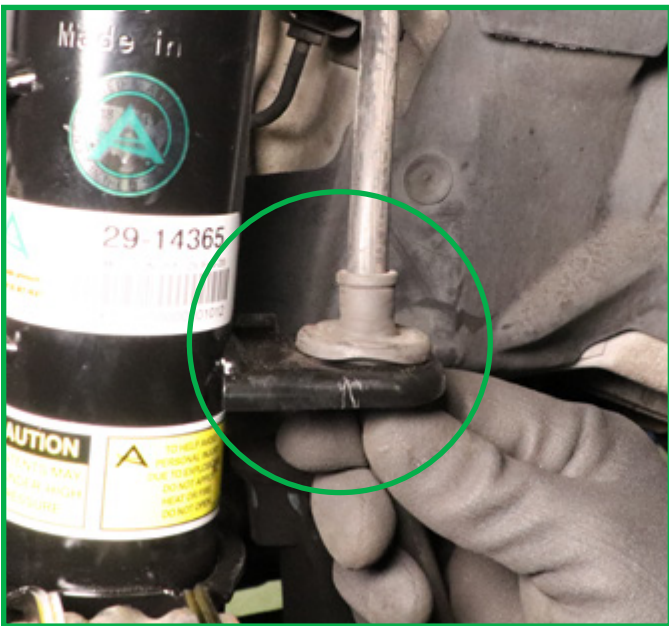

FIGURE 13
4. Place the brake line and clip on the strut retainer bracket. (Figures 13, 14)